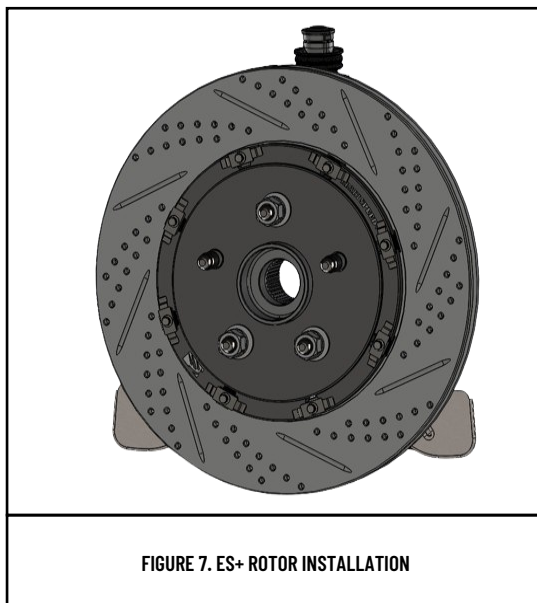

FIGURE 7. ES+ ROTOR INSTALLATION
2. Temporarily secure the rotor to the hub with three lug nuts and washers to prevent scratching the rotor hat face (Figure 7).